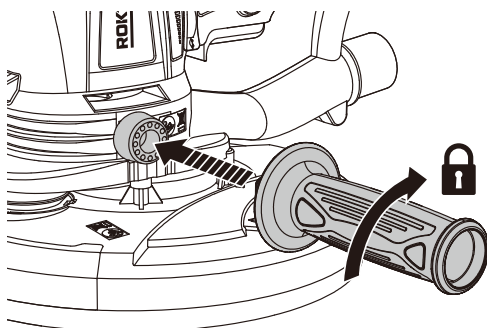

Figure 1
1. INSTALLING THE AUXILIARY HANDLE (SEE FIG. 1)